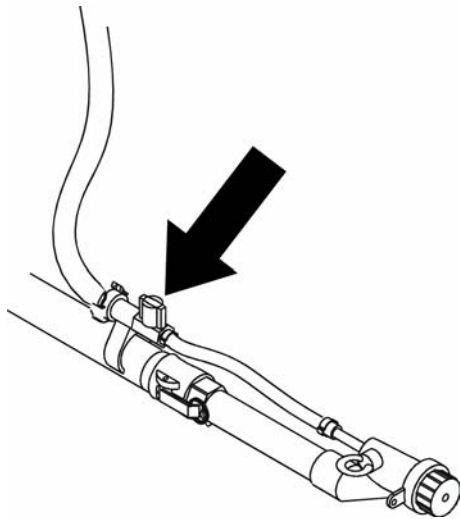

Fig. 36: Open air cock
3. Open air cock (Fig. 36/arrow) on the sprayer.
4. Close the air cock (Fig. 36/ arrow) for brief work interruptions.